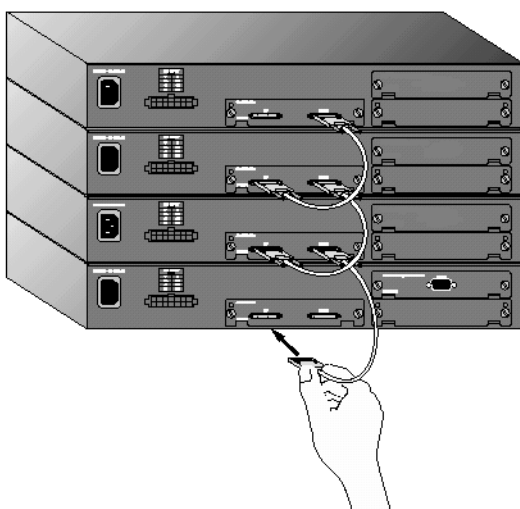

Figure 3 Cabling the Switches
5. Connect the stack cables to the AT-BSTACK1 Stacking Modules, as shown in Figure 3. Attach one end of the stacking cable to the stack connector labeled "DOWN" on the top device, and the other end to the connector labeled "UP" on the next lower device. Repeat this step until all the switches have been connected.